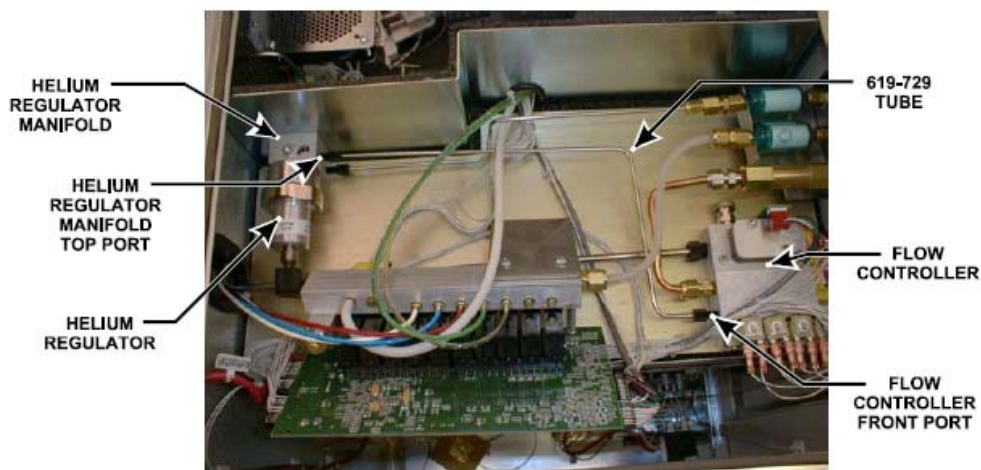

Figure 3-16
5. Install the 619-729 Tube from the top port in the helium regulator manifold and the front port on the flow controller figure 3-16 below. Use a 617-484 Nut and 617-485 Ferrule on each end of the 619-729 Tube. The 617-484 Nuts can be tightened with the 617-486 Nut Tool.